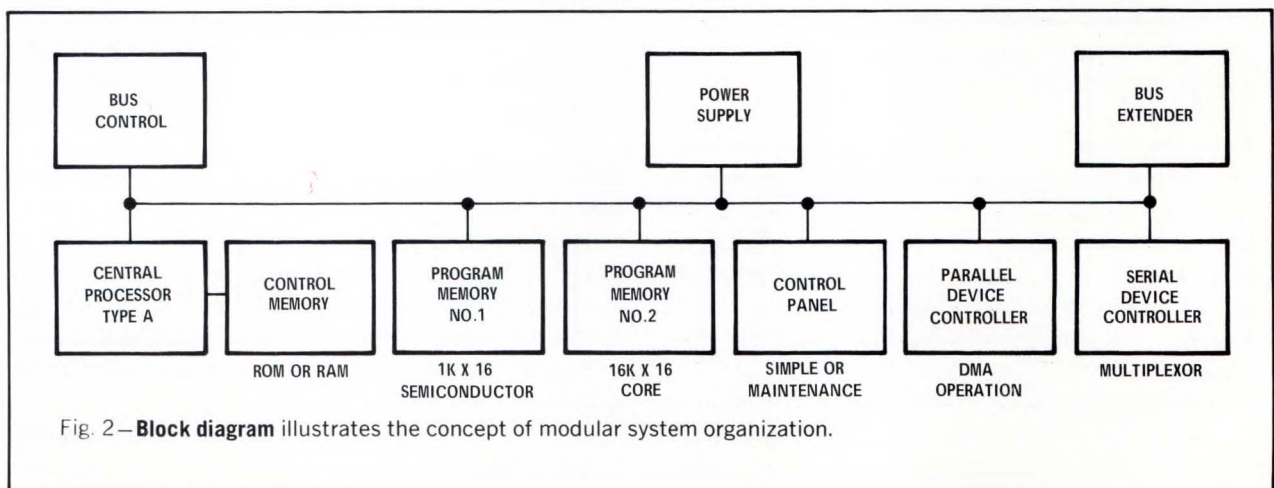

Fig. 2—Block diagram illustrates the concept of modular system organization.
The printed-circuit backplane—mother board—will be the modern accommodation for a variety of pluggable system modules. A common bus structure will provide the necessary interconnection, with data lines, address lines, control and timing signals. Each system module will communicate with other modules via this common bus. A special system module, the bus controller, will be required to control and determine the priorities on the bus. The block diagram in **Fig. 2** represents such a typical modular system.
**Improved Ramp Types.** A more elegant approach to ramp-type conversion is shown in Fig. 2. This approach uses a bucket counter and reduces the problems caused by poor clock stability in the basic circuit.
Fig. 2—Improved ramp-type converter uses a bucket counter instead of a simple binary counter. This approach eliminates the requirement for a stable clock frequency.